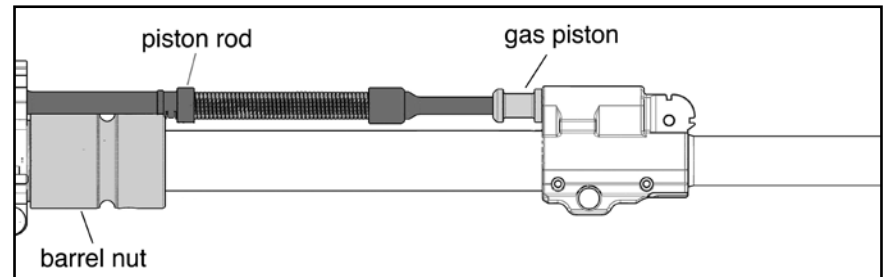

Fig. 69 – Lubrication of the Gas Piston, Piston Rod, and Barrel Nut Exterior
1. Apply a medium coat of lubricant on the gas piston and operating rod (Fig. 69)